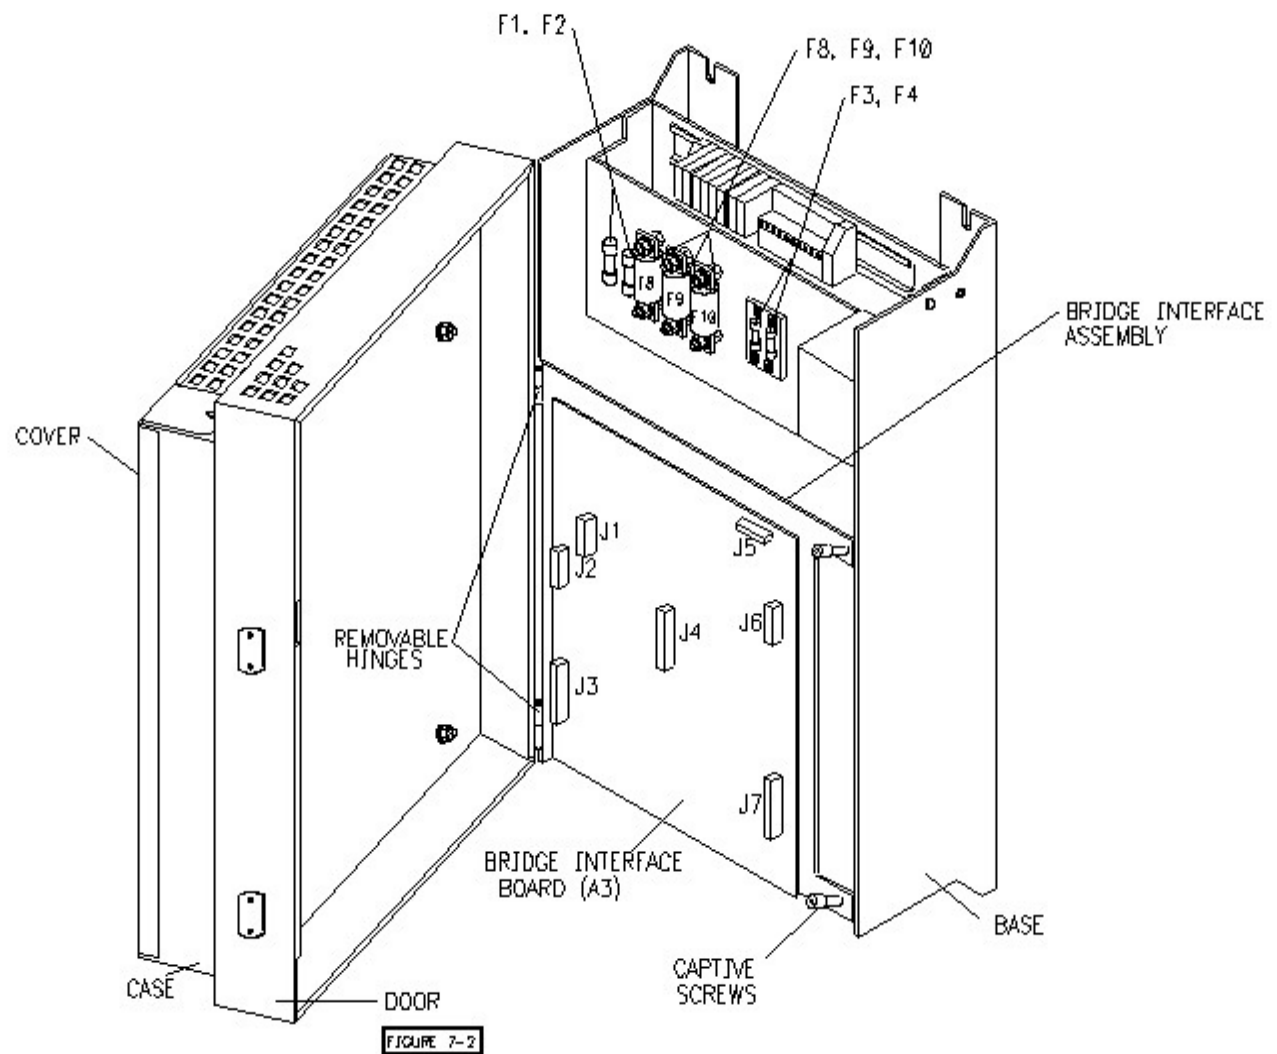

Figure 7-2. Replacing Bridge Interface Board
7.3.2 REPLACING BRIDGE INTERFACE BOARD (A3) AND SNUBBER BOARD (A4) (510 ADC and Below) (Refer to Figures 7-2 and 7-5.)